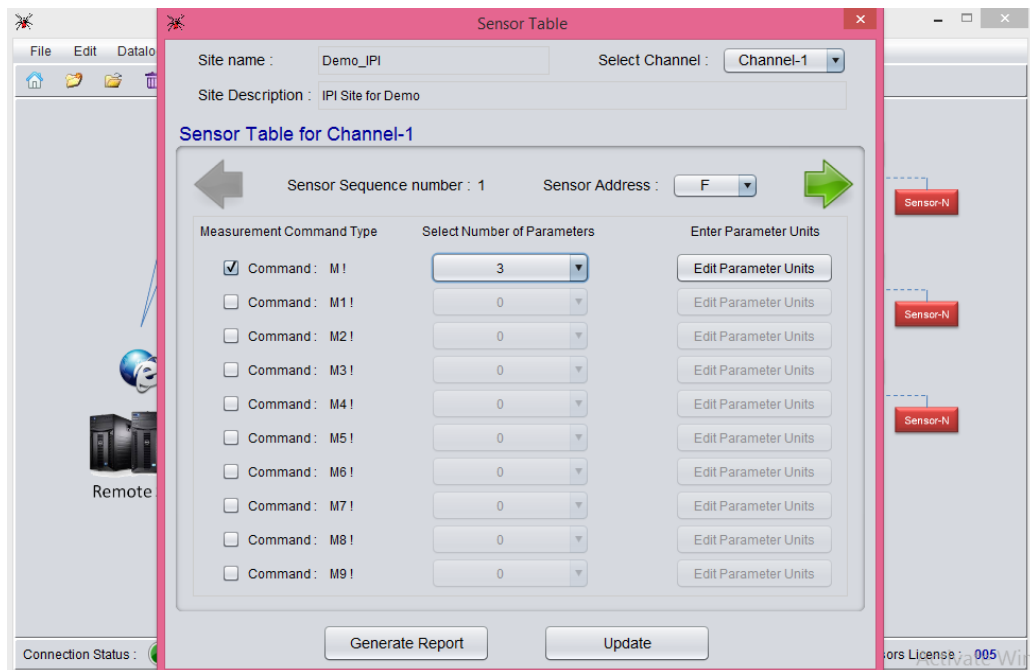

Figure 33 Sensor table window of EDSL-30UNI Configuration Manger Software
- 16 In the “Sensor Table” window shown in figure 33 below, select appropriate channel from “Select Channel” & address from “Sensor Address” to which the sensor is connected. Then select the “Measurement Command Type” which is “M!” by default and “Select Number of Parameters” to be measured. Then click on “Edit Parameter Units”